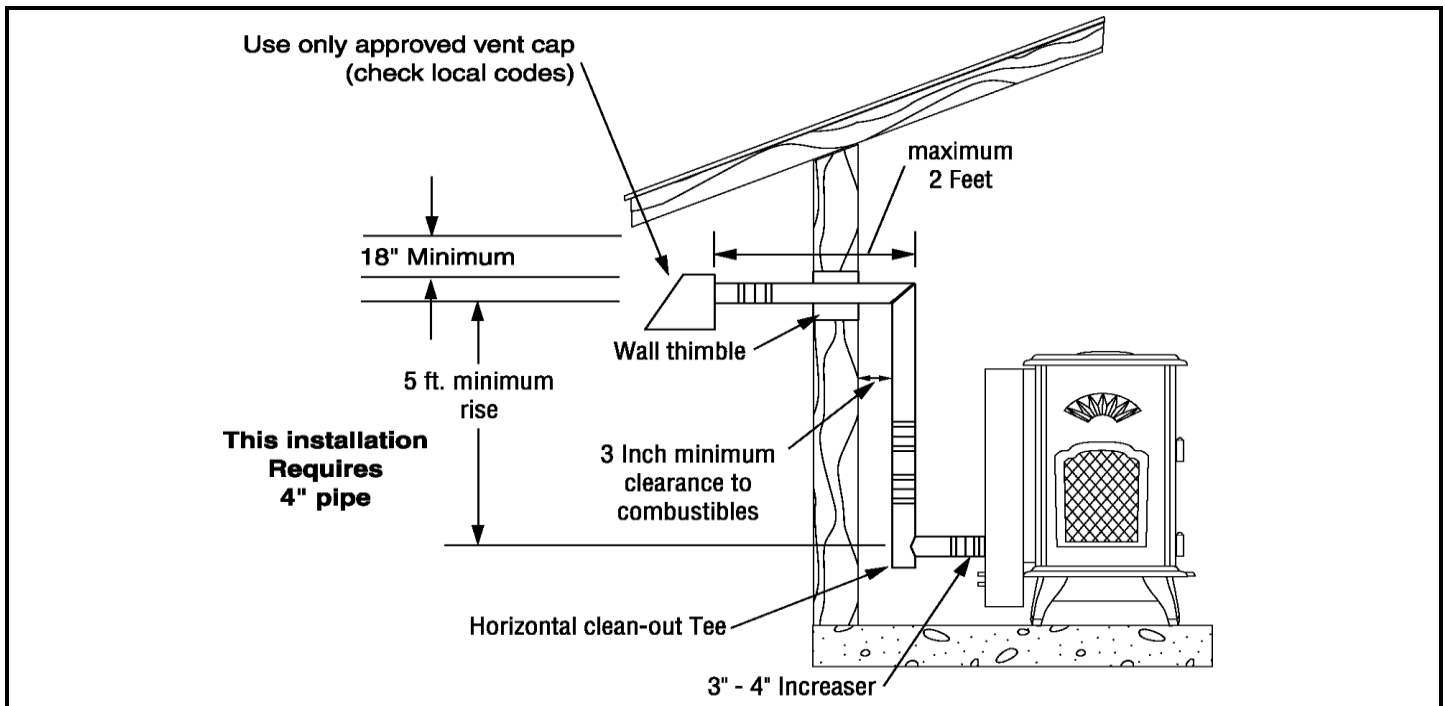

FIGURE 7
This unit has been approved for use with a **3" and 4" Type L Pellet Vent System**. On runs in excess of 10' and installations per FIGURE 7, the 4" pipe must be used.
- c. Installation per Figure 7 requires 4" pellet pipe.